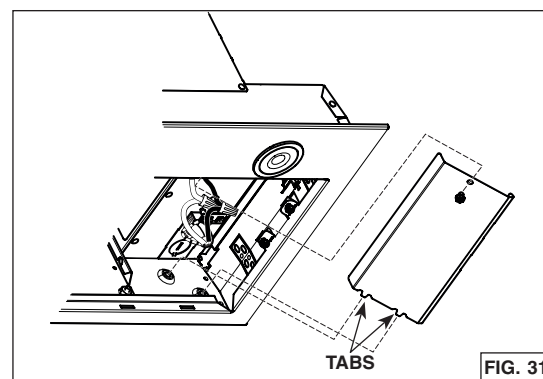

FIG. 31
2. Reinstall the electrical cover in the unit; ensuring the bottom tabs are inserted in their embossed location. Secure in place using its retaining screw (FIG. 31).